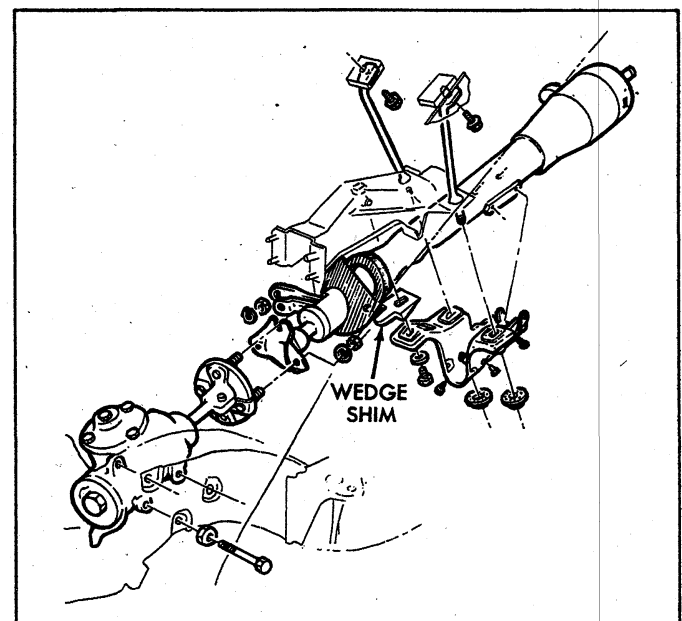

Fig. 60—Instrument Panel Mounting Bracket—Camaro
5. Camaro only (fig. 60):
Lay wedge shim in position on instrument panel column mounting bracket and place bracket in correct position on underside of instrument panel. Loosely install bracket using bracket to column mounting screws, nuts, and washer and bolt as shown in Figure 60.